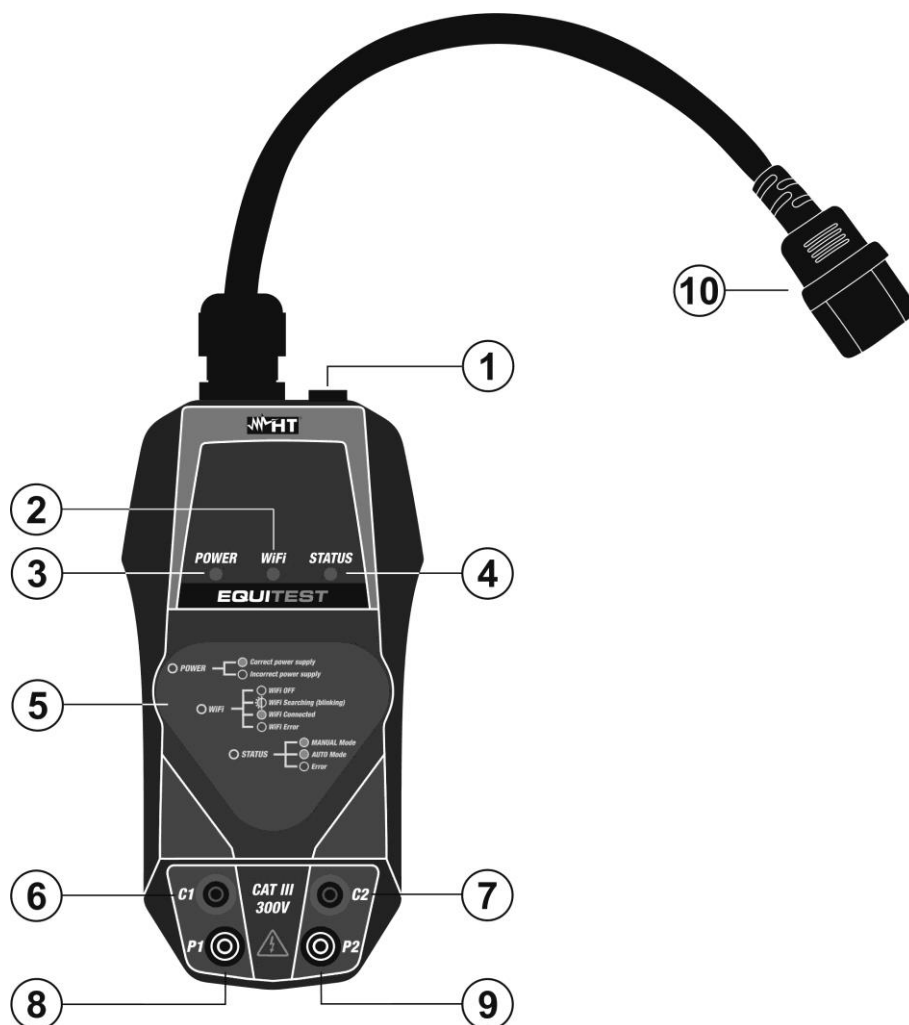
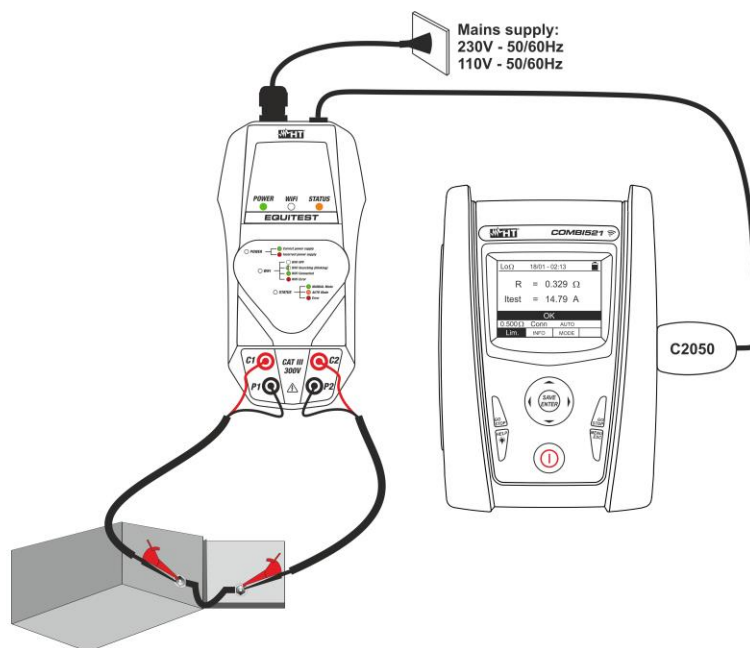

Fig. 1 Description of the instrument
Fig. 3 Using the instrument with MASTER unit
1. Connect the instrument to the power supply using the supplied network cable (see Fig.1 - part 10). The **POWER** LED is **steady green** to identify the correct power supply voltage, the **STATUS** LED is **steady green** to identify the operation of the instrument in **Manual mode** (see user manual of the MASTER instrument) and the **WiFi** LED is on in **green flashing** color to identify that the instrument is trying to make (if available) a WiFi connection with an external mobile device via the HT Equitest APP (see § 5.2) and has no functionality in the connection with the MASTER instrument
2. Connect the instrument to the MASTER instrument (see Fig. 3) by using the C2050 cable supplied (see Fig. 1- part 1)
4. Connect the two black cables of the **C7000** cable set to the input sockets **P1** and **P2** and the two red cables to the input sockets **C1** and **C2** (see Fig. 3)
5. Connect the alligator clips of the **C7000** cable set to the ends of the object under test (see Fig. 3)
7. By selecting the **Automatic mode** on the MASTER instrument (measurement activated without using the **GO/STOP** key) check that the **STATUS** LED should be **steady orange** and connect the alligator clips to the ends of the object under test (see Fig. 3) to automatically activate the test
1. Connect the instrument to the power supply using the supplied network cable (see Fig.1 - part 10). The **POWER** LED is **steady green** to identify the correct power supply voltage, the **STATUS** LED is **steady green** to identify the operation of the instrument in **Manual mode**